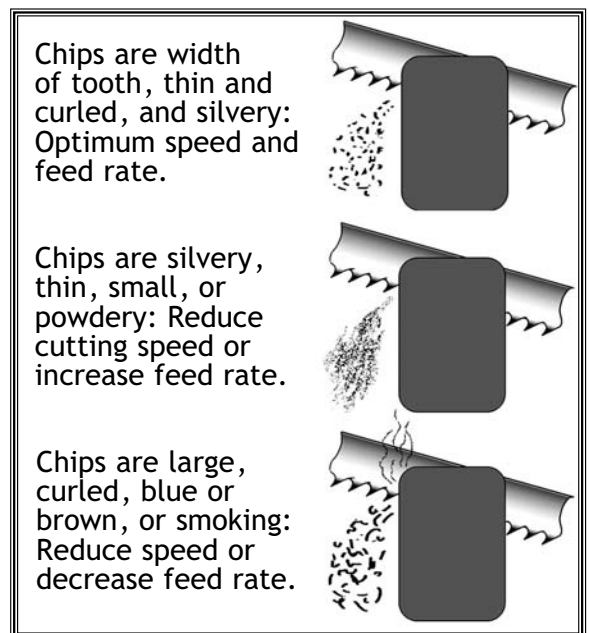

Figure 40. Reading chip characteristics.
7. Observe the chips that exit the cut, and increase or decrease the feed rate according to the chip characteristics (see **Figure 40**).